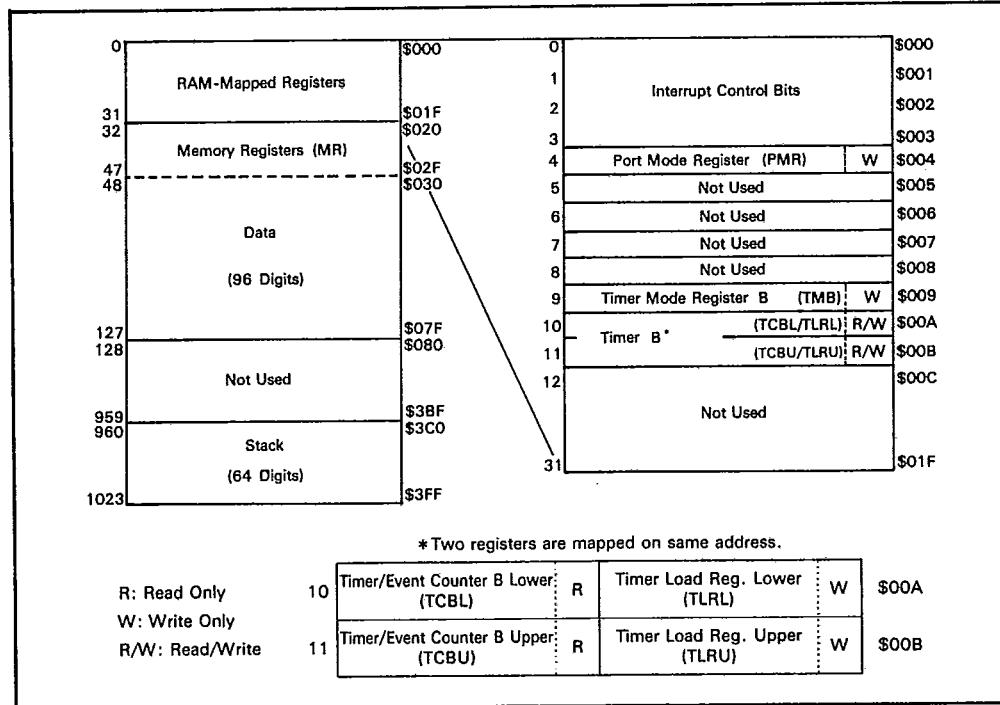

Figure 2. RAM Memory Map
The MCU includes 160 digits of 4-bit RAM as the data and stack area. In addition to these areas, interrupt control bits and special function registers are also mapped on the RAM memory space. The RAM memory map (figure 2) is described in the following paragraphs.
**Special Function Registers Area (\$004 to \$00B):** The special function registers are the mode or data registers for the external interrupt, the serial interface, and the timer/counter. These registers are classified into three types: write-only, read-only, and read/write as shown in figure 2. These registers